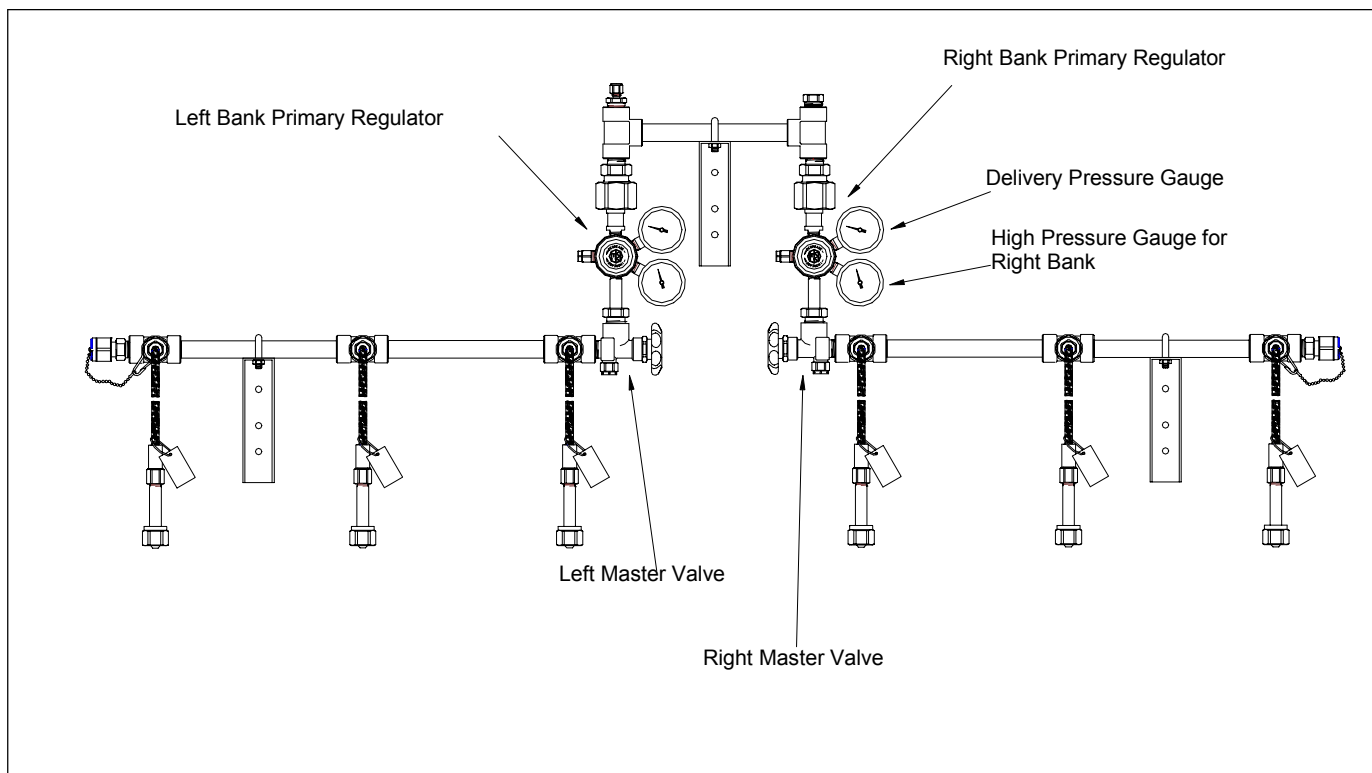

FIGURE 16
1. S-L-O-W-L-Y open the right master valve (turn counter-clockwise to open). The high pressure gauge will show the full pressure of the right bank of cylinders (Figure 16)